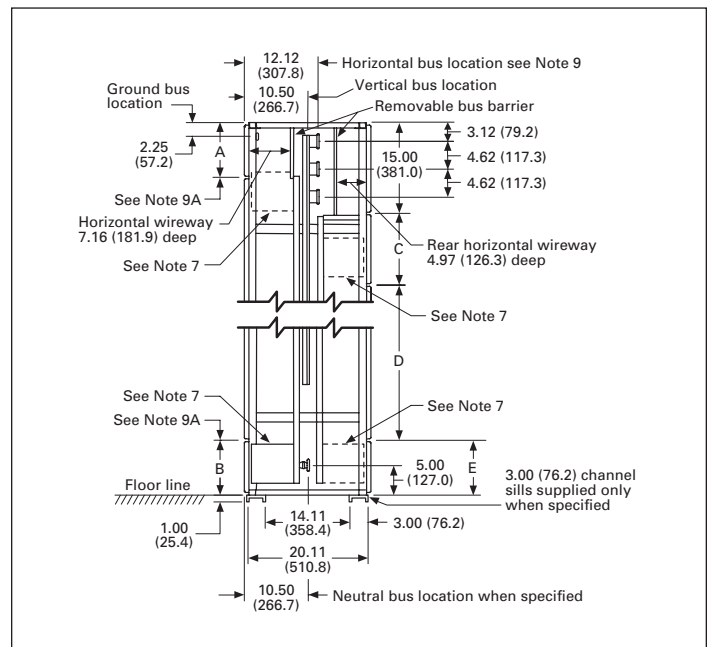

Figure 48. Side View B
- This conduit space is not recommended when a neutral bus and/or a space heater is required. Otherwise, this space is available for conduit. See **Figure 48** for vertical dimensions.